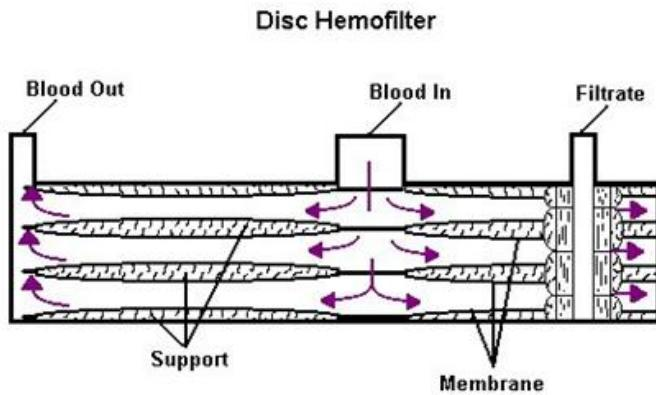

Figure 7. The Disc hemofilter
- This dialyzer uses several parallel plates with ridges and grooves in them, the dialysate flows along the grooves, a semipermeable membrane rests between the ridges and the blood flow on the membranes. With these dialyzers, resistance to blood flow is low; the diagram below illustrates one type of parallel plate dialyzers, the disc hemofilter as in figure 7.